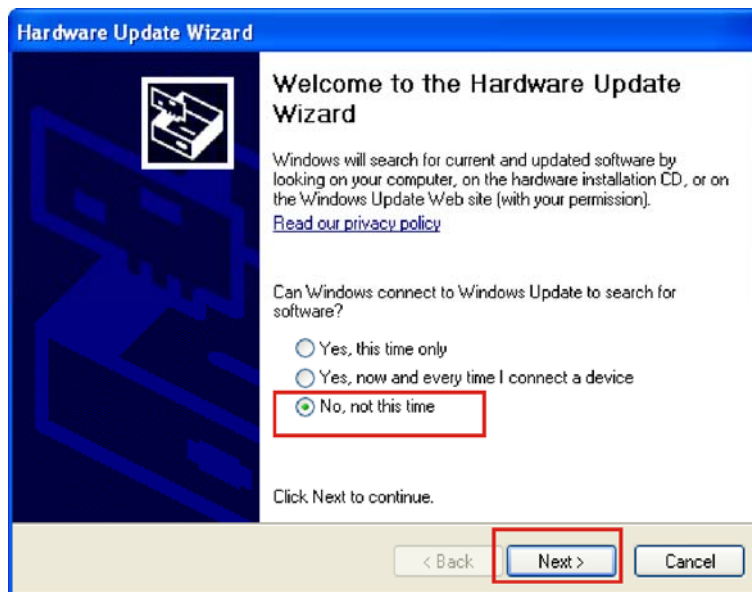

Figure 6-18: Search Windows Update Prompt
Step 5: The Device Driver Wizard appears (Figure 6-18).
Step 6: Select “No, not this time” to force the wizard to search hard drives, CD drives and floppy drives for a driver and not connect to the Internet to search for the appropriate driver (Figure 6-18).